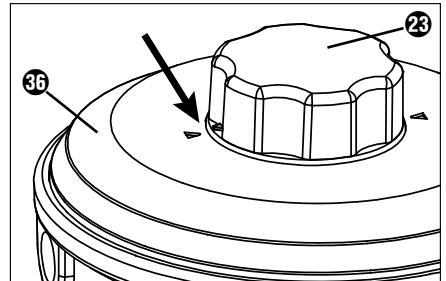

Fig. 1
- 1) Make sure that the two arrows on the cover 36 and on the rotary knob 23 of the line spool 22 point towards each other (see Fig. 1).